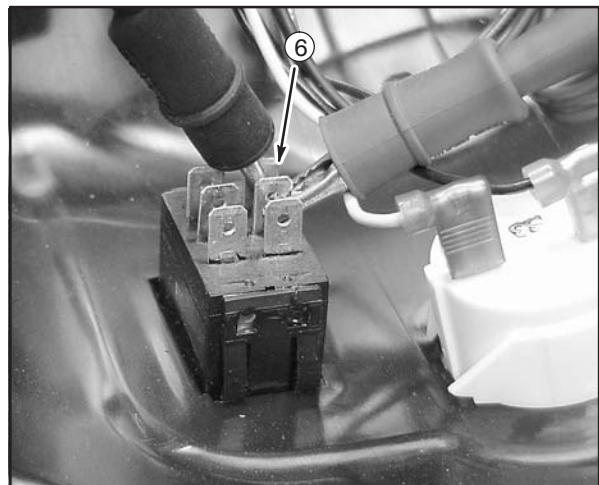

Fig. 31
16. Move test lead to top terminal (6) on switch (white wire), Fig. 31.